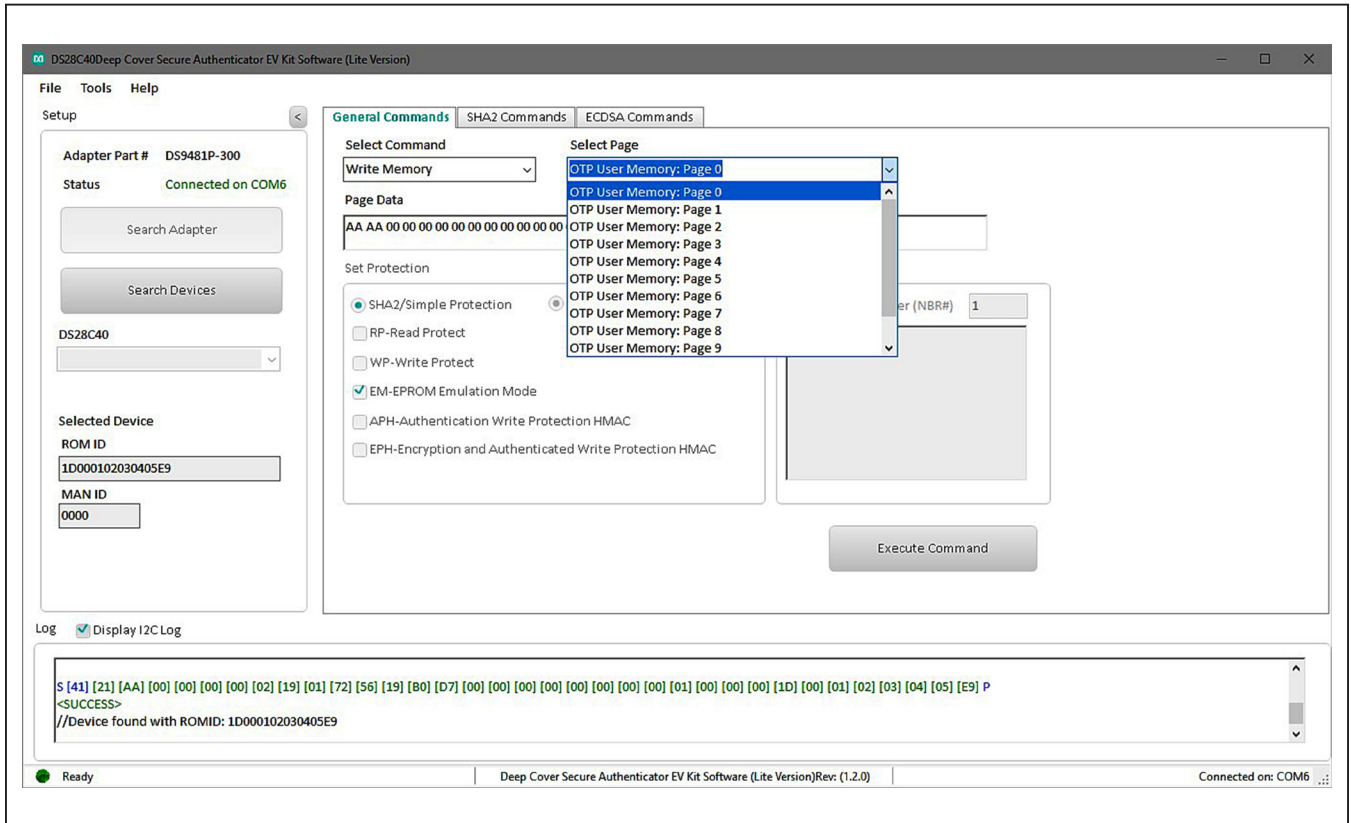

Figure 15. Select Page
4) Select the page for writing (Figure 15).